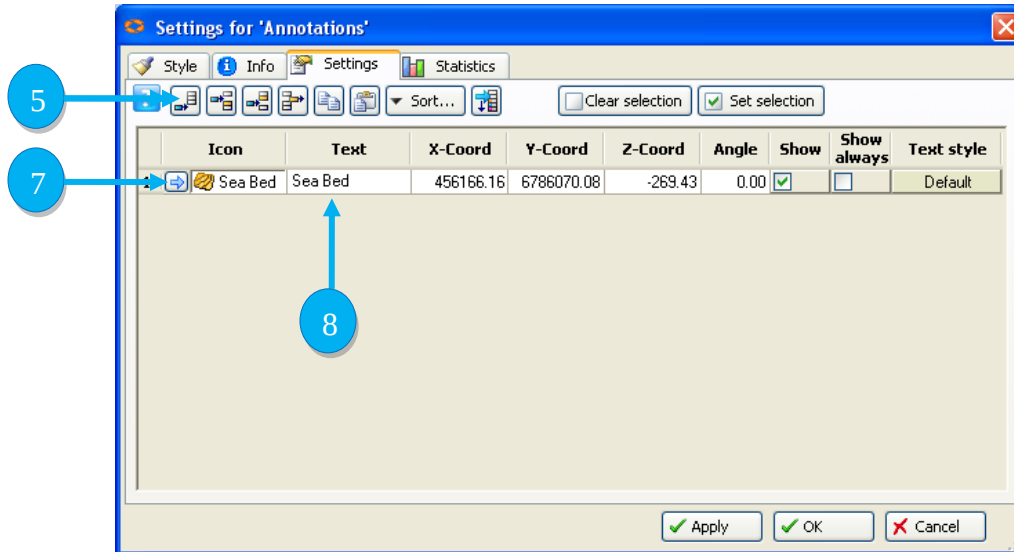

Fig.9.7: Settings for “Annotations”
6. The Row form appears as shown in Fig.9.7